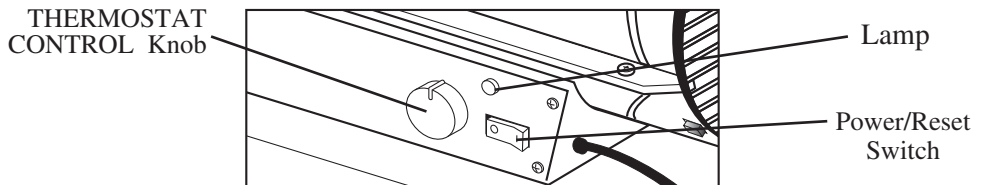

Figure 9. RMC-KFA45T/65T/120T/170T/210T MODELS
4. Turn "THERMOSTAT CONTROL Knob" to desired setting and push power switch to "ON" position, power indicator lamp will light and heater will start. If heater does not start, the thermostat setting may be too low, turn THERMOSTAT CONTROL Knob" to higher position to start heater. If heater still does not start, turn power switch to "OFF" and then to "ON" position. (See Figure9). If heater still does not start, see Troubleshooting Guide on page 13.